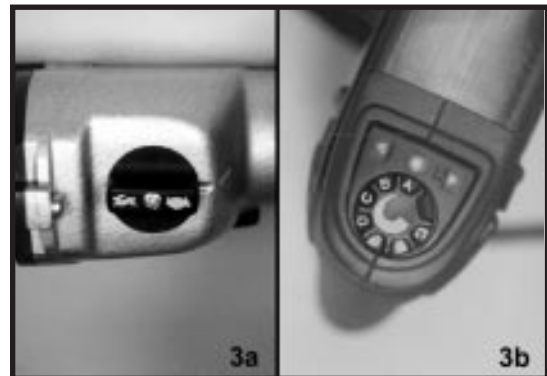

Figure 3
1. The low speed side of the gearbox engaged (3a), the dial speed control should always be set on "A" (3b). This will keep the blade at its optimum speed of 100 rpm (Figure 3).